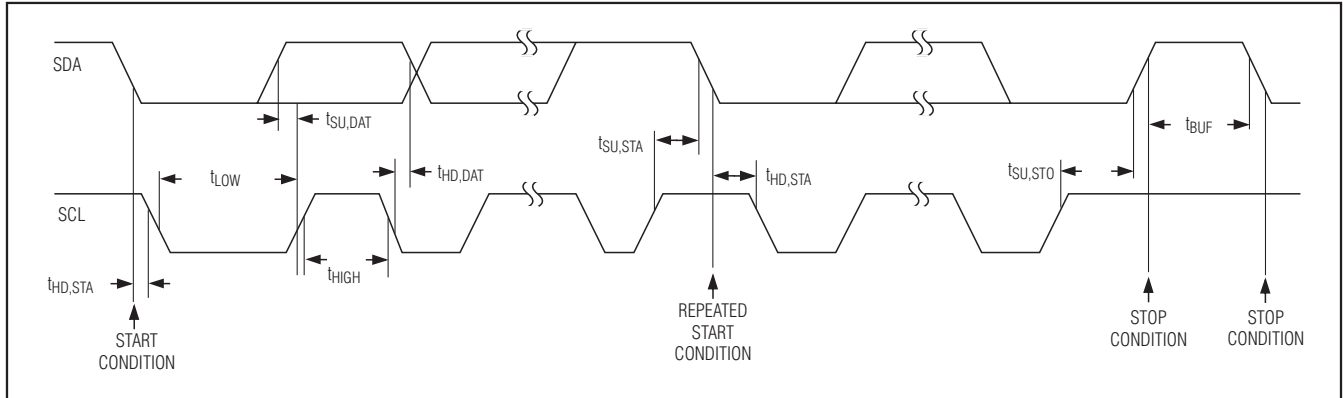
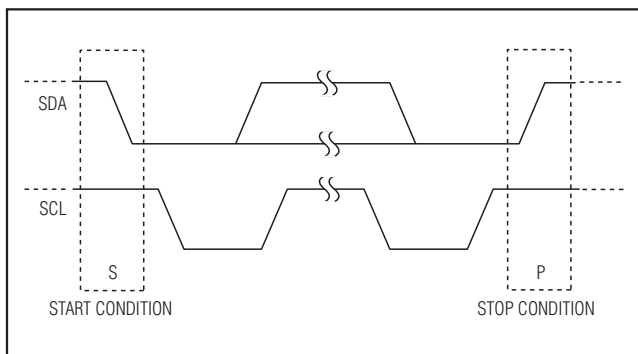

Figure 5. I²C Interface Timing Diagram
Figure 6. I²C START and STOP Conditions
The interface uses a serial-data line (SDA) and a serial-clock line (SCL) to achieve bidirectional communication between master(s) and slave(s). A master (typically a microcontroller) initiates all data transfers to and from the MAX8831, and generates the SCL clock that synchronizes the data transfer (Figure 5). The MAX8831 SDA line operates as both an input and an open-drain output. A pullup resistor, typically 4.7k Ω , is required on SDA. The MAX8831 SCL line operates only as an input. A pullup resistor, typically 4.7k Ω , is required on SCL if there are multiple masters on the 2-wire interface, or if the master in a single-master system has an open-drain
SCL output. Each transmission consists of a START condition (Figure 6) sent by a master, followed by the MAX8831 7-bit slave address plus a R/W bit, a register address byte, 1 or more data bytes, and finally a STOP condition (Figures 5 and 6).
Both SCL and SDA remain high when the interface is not busy. The master signals the beginning of a transmission with a START (S) condition by transitioning SDA from high to low while SCL is high. When the master has finished communicating with the slave, it issues a STOP (P) condition by transitioning the SDA from low to high while SCL is high. The bus is then free for another transmission (Figure 6).